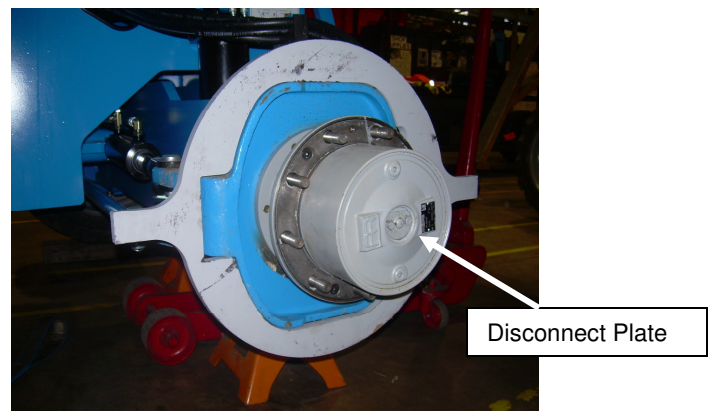

Fig. 5
- b. Remove the 2 bolts holding the disconnect plate and push in the pin to disengage the hub. **Fig. 5**